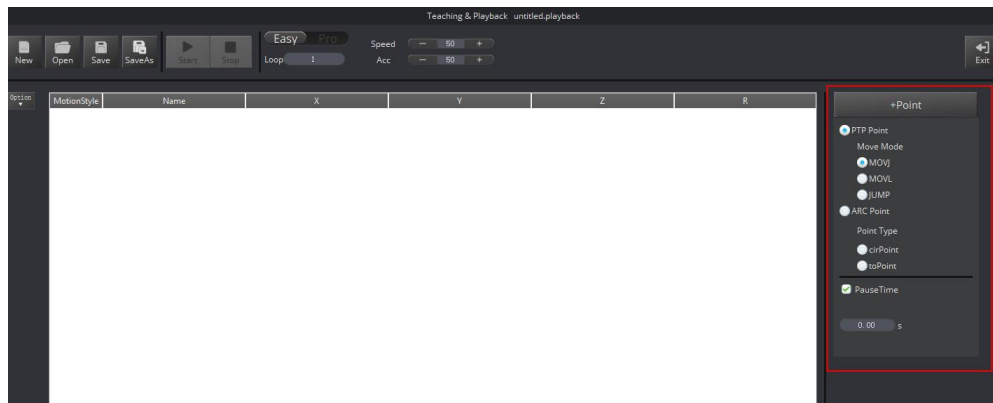

Figure 2.18 Select MOVJ motion mode
2. Select **PTP Point** > **MOVJ** mode in the Save Point area, as shown in Figure 2.18.